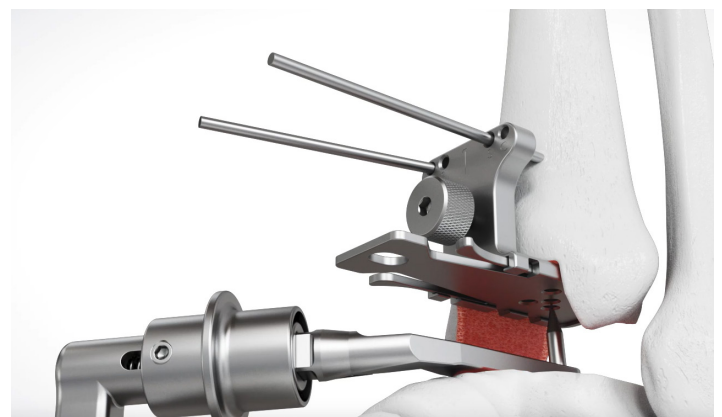

Fig. 28
2.13 Using the Spike Broach attached to the offset impactor, chase all four corners and the center hole of the Drill Plate. (Fig. 28)